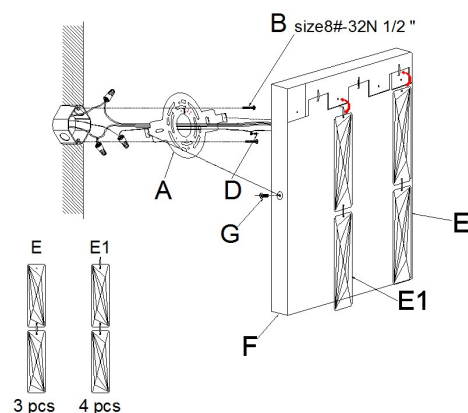

Fig.2
CONNECTING THE WIRES (Fig. 2)
5. Pass the black/white and bare copper wires through the opening of the mounting plate (A). Connect the electrical wire as shown in figure 2, making sure that all wire connectors are secured. If your junction box has a ground wire (green or bare copper), connect the ground wire from the fixture to it. Otherwise connect fixture ground wire directly to the mounting plate (A) using the green screw (D) provided. Tuck the wire connections neatly into the junction box.